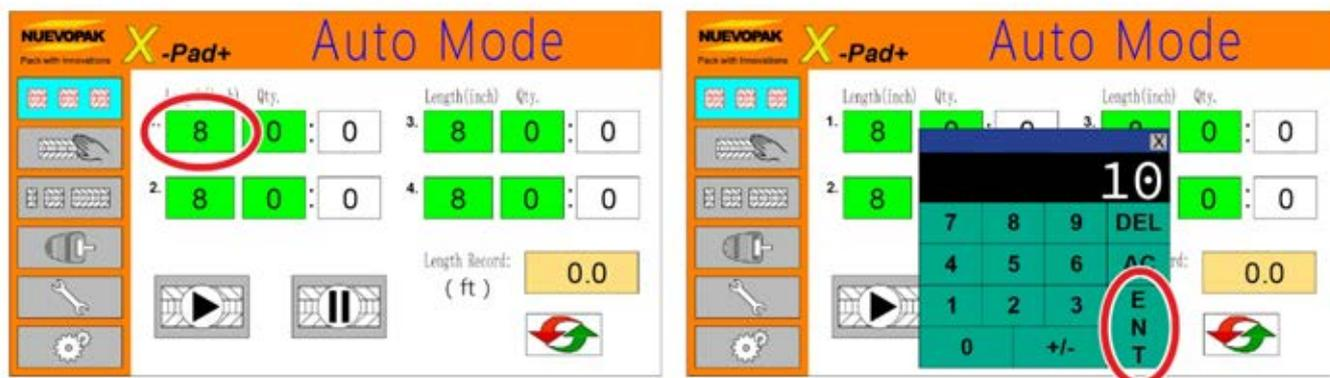

Figure 30 Change Pre-Set Output Length
1. Select the Auto Mode key in the Menu Bar (refer to Figure 30).